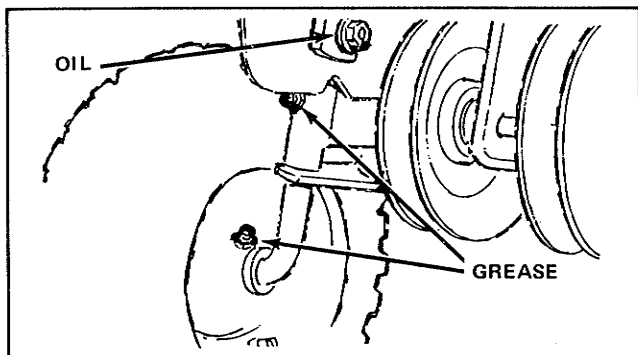

Figure 16
4. General Lubrication: The five grease fittings on your tractor should be greased with a lithium base automotive type grease. Remove all dirt, grit and paint from the fitting before greasing. A few drops of engine oil should be applied to the points indicated. Do not allow oil to get on belts or pulleys. (See Figures 16, 17, 18 & 19)